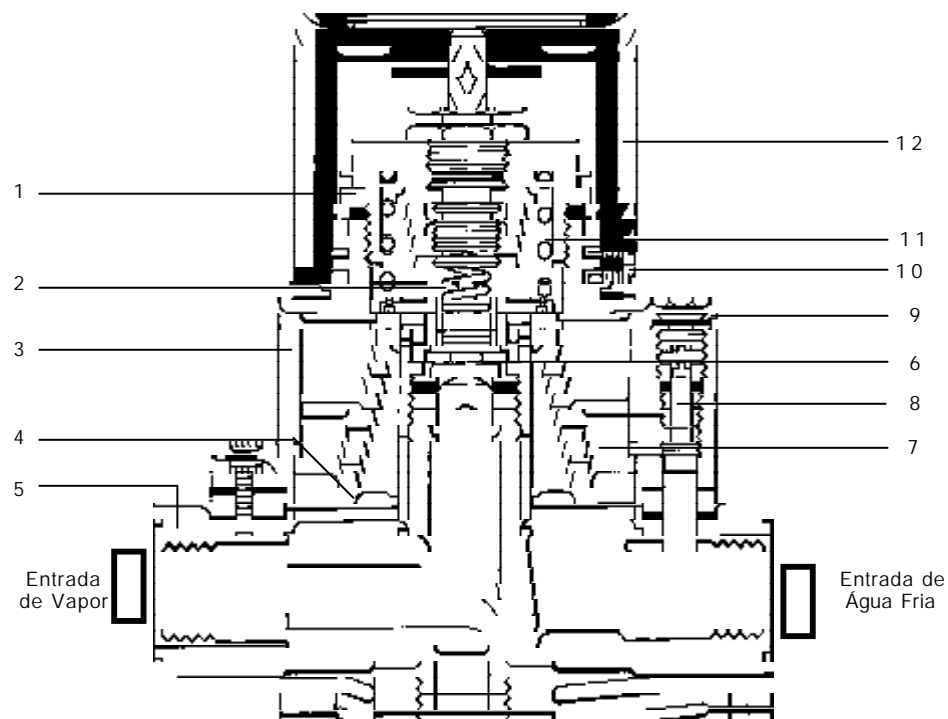

Fig 5
To change the fixed loaded spring. Turn the control knob (12) see Fig. 5, to the full high temperature position, loosen screw (10) and remove the knob. Remove upper head cap (1) by unscrewing counter-clockwise, lift out the large spring and replace with correct one. When reassembling make sure that the small spring is recessed correctly into the spindle and does NOT lie flat in the valve body.
Check that the correct spring is fitted. Turn control knob to right as far as possible, to obtain the correct temperature. (screw stop 10 fig 5 may need to be loosened). Remove the hex screw 9 insert a screwdriver and close the cold water input valve by turning clockwise. Measure the temperature if correct refit screw 9. If the temperature is still too low the water supply should be reduced by the installation of an LRV water reducing valve.
Turn off and isolate the Steam and Water supplies, remove any residual pressure from the system by operating the Hose Gun and remove the gun from the hose. Undo the 3 union joints and remove the mixing valve from its fixings and move it to a maintenance area. Referring to Fig 5. Remove Knob 12. by loosening holding screw 10. Unscrew the upper head 1. and remove the spring. Remove the upper body 3 by taking out the 12 x 5mm set screws. The upper and lower bodies may be eased apart. All parts should now be cleaned using a proprietary De-Scaler.